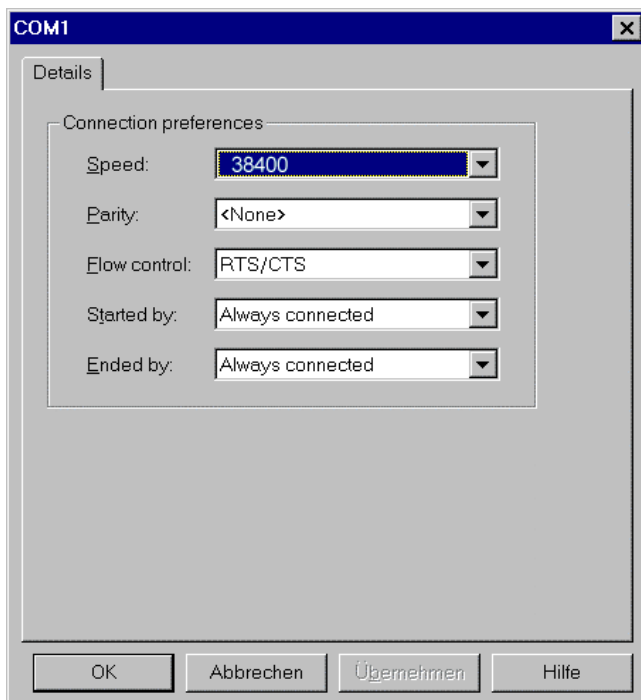

Fig. 3
- Select the settings according to Fig. 3 and close the window shown in Fig. 3 by clicking on the "OK" button.